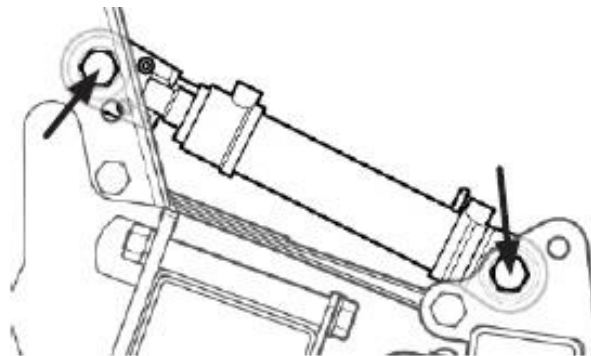

Figure 16
- Position One (Factory position): Top hole for the front of the cylinder and lower hole for the rear position. Figure 16